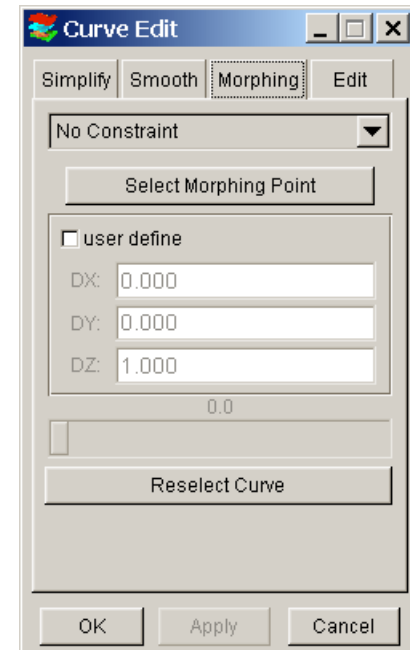

Figure 5.26
25. Click **Edit Binder** (See Figure 5.26)
27. Click on **Morphing** (See Figure 5.26)